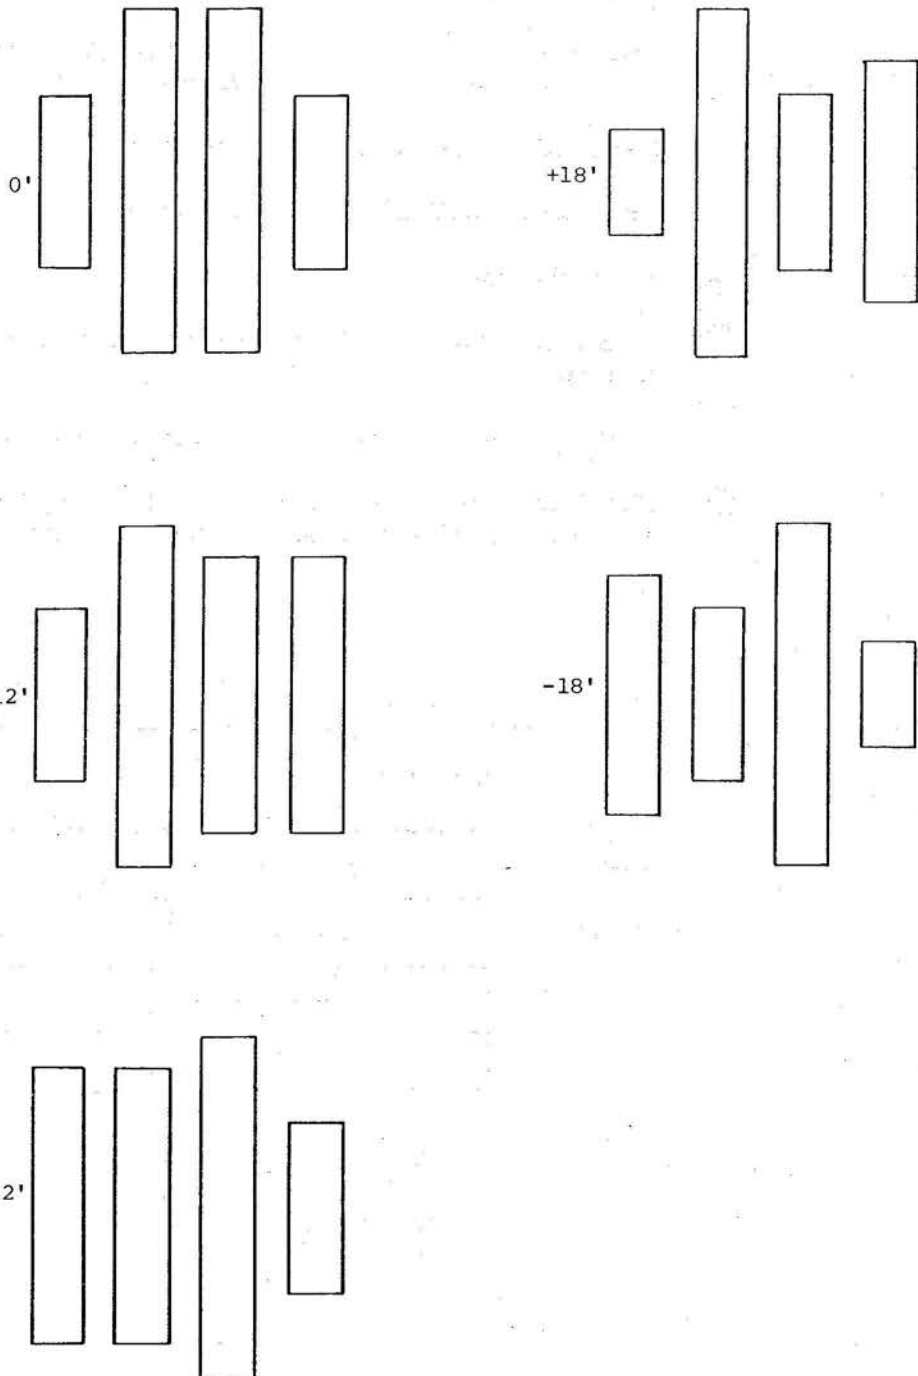

Figure 12 Azimuth Burst Patterns
- ④ Seek Track 76. (Track 72)
- ⑤ Load the head.
- ⑥ Confirm that oscilloscope readings are within the tolerances shown in figure 12.